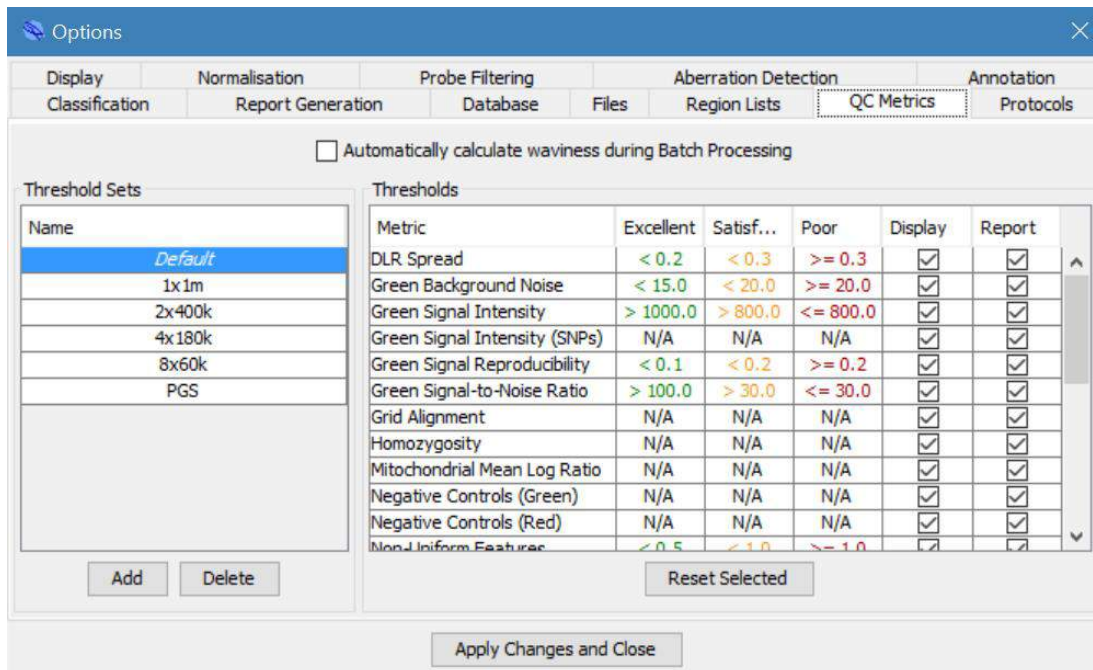

Figure 31: QC metrics setting panel.
1. Choose **Tools -> Options... -> QC Metrics** to open the QC metric settings window, as seen in Figure 31. All defined threshold sets are listed along the left-hand side of the window, with the blue bar indicating which set is currently being displayed on the right-hand side (which is the *Default* set in Figure 31). To view metrics from a different set, click on the set in the list. When viewing non-*default* sets, all threshold values in bold are those which differ from the *Default* set.
Editing thresholds and creating new threshold sets can be carried out from either of the settings menus (Figures 31 and 33). In order to open each of these menus, please follow the steps outlined in the View thresholds section. To edit a threshold for an existing set, double left-click on the value of interest to make the box editable. Type the new value and then single left-click elsewhere in the window to load the new threshold. Click **Apply Changes and Close** or **Close**, depending on which window you are in. Any displayed QC metrics should re-load to use the new thresholds.